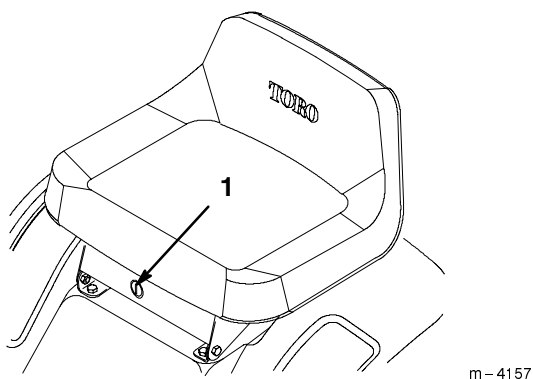

Figure 10
If you need to use the PTO while backing up, you can turn off this interlock feature using the KeyChoice switch located near the seat bracket (Fig. 10).
2. Insert the KeyChoice key into the switch (Fig. 10).